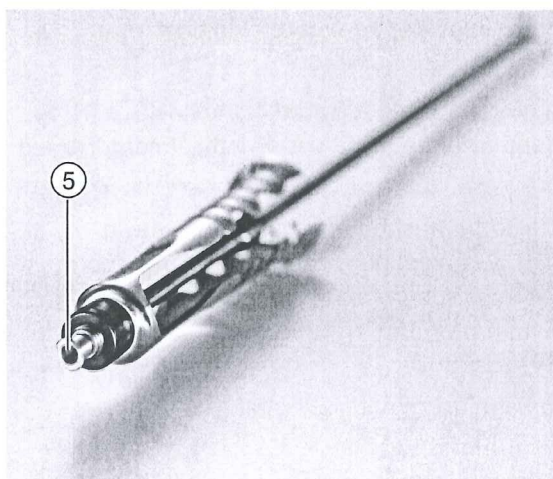

Fig. 7-5: Cleaning connector
- Special mesh trays or suitable fixation means must be used for the instruments. If necessary, use a mobile unit (slide-in load carrier) providing special flushing technology with Luer-lock cleaning connectors (siehe Fig. 7-5) to ensure reliable cleaning and internal flushing of the instruments.
- All instruments must be flushed with a cleaning gun via the dedicated (Luer-lock, see Fig. 7-5) cleaning connector and must subsequently be dried with medical compressed air.
- The joints at the distal end (working end) must also be flushed several times with a cleaning gun via the dedicated (Luer-lock, see Fig. 7-5) cleaning connector. They too must then be dried with medical compressed air.